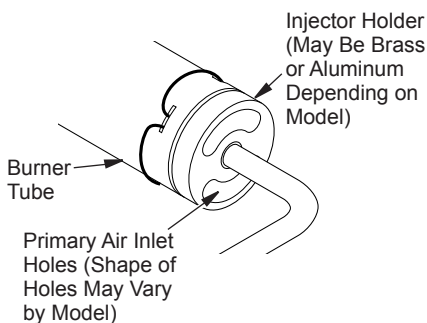

Figure 40 - Injector Holder On Outlet Burner Tube
2. Inspect burner, pilot and primary air inlet holes on injector holder for dust and dirt (see Figure 40).